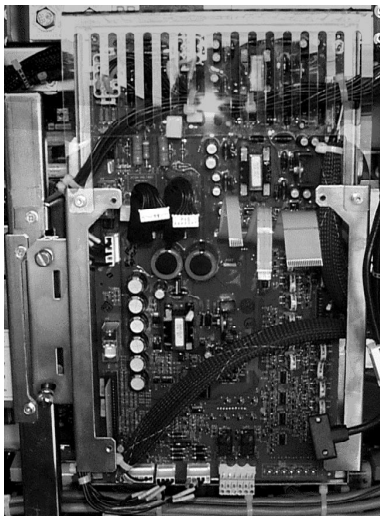

Figure 4.3.11: Power Board
3. Remove the three plastic shield mounting screws (see Figure 4.3.11 on page 4.3.19). Using the plastic rivet as a hinge, swing the plastic shield out of the way.